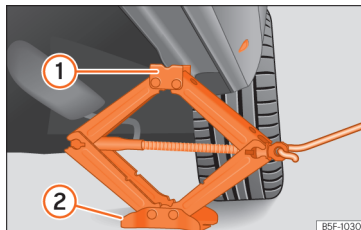

Fig. 39 Cross member: positioning the jack on the vehicle.
- Turn the jack* crank handle, located below the strut support point, to raise it until the tab ① >>> **Fig. 39** is below the housing provided.
- Align the jack* so that tab ① "grips" onto the housing provided on the strut and the mobile base ② is resting on the ground. The base plate ② should fall vertically with respect to the support point ①.